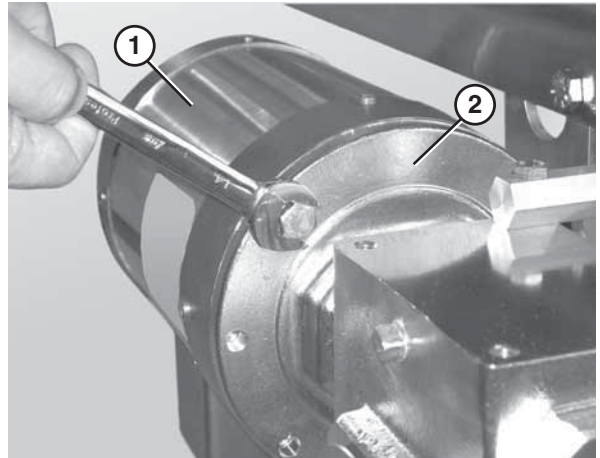

Figure 70
2. Remove the bolts that connect the motor to the drive assembly (Figure 70).
3. Remove the motor (Figure 70, item 1) from the drive assembly (Figure 70, item 2).